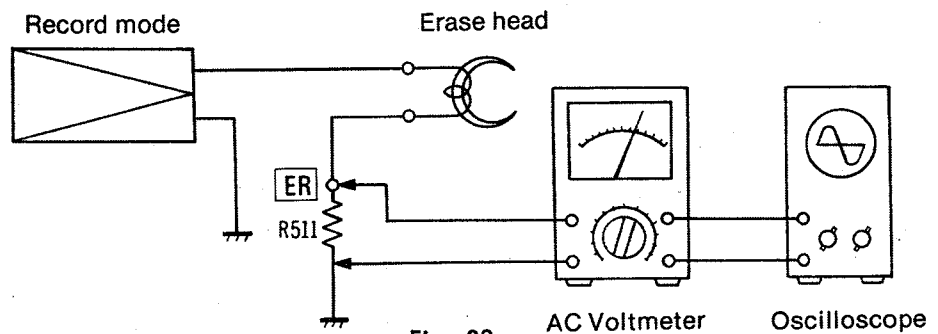
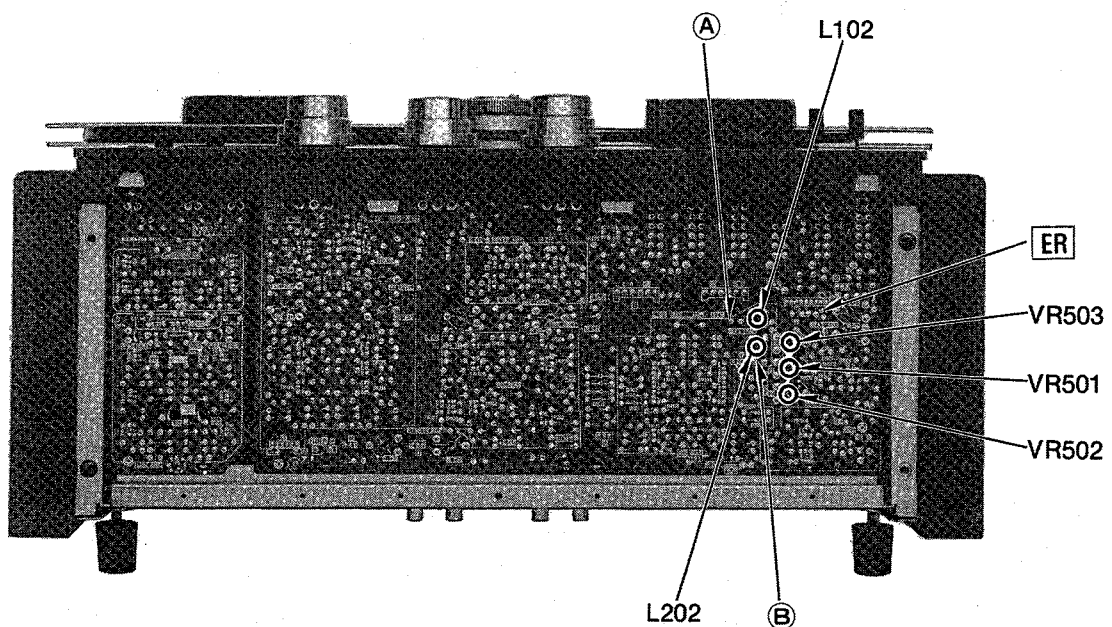

Fig. 38
Fig. 39
Erase current	<p>1. Test equipment connections are shown in fig. 38.</p> <p>2. Set the Line-in level control to minimum position.</p> <p>3. Set the bias selector to "1" position.</p> <p>4. Set the tape speed selector to "38" position.</p> <p>5. Set the recording mode selector to "ON" (L-CH) and "OFF" (R-CH).</p> <p>6. Place unit into recording mode.</p> <p>7. Measure voltage at point (A) and then calculate erase current by formula below.</p> $\text{Erase current} = \frac{\text{Value read on VTVM (V)}}{1 (\Omega)}$ <div style="border: 1px solid black; padding: 5px; margin: 10px auto; width: fit-content;"> <p>Standard value: Bias selector "1" position: around 65 mA</p> </div> <p>8. Then set the recording mode selectors to "OFF" (L-CH) and (R-CH), and confirm that the above standard value can be obtained.</p> <p>[Adjustment] If the measured value is not satisfied, adjust the erase current adjustment VR, VR501. (See fig. 39.)</p> <p>9. Next, set the bias selector to the "2" position, and confirm that the standard value shown below can be obtained.</p> <div style="border: 1px solid black; padding: 5px; margin: 10px auto; width: fit-content;"> <p>Standard value: Bias selector "2" position: around 71 mA</p> </div> <p>[Adjustment] If the measured value is not satisfied, adjust the erase current adjustment VR, VR502. (See fig. 39.)</p>
(See fig. 39.)
Bias current leakage-1	<p>To prevent bias current leakage to REC-AMP.</p> <p>(L-channel)</p> <p style="text-align: center;">Fig. 40</p> <ol style="list-style-type: none"> <li>1. Test equipment connections are shown in fig. 40.</li> <li>2. Thread "open" blank test tape (QZZORA218EX).</li> <li>3. Place unit into recording and playback modes.</li> <li>4. Set the recording mode selectors to "ON" (L-CH) and "OFF" (R-CH).</li> <li>5. Measure and adjust bias trap coil L102 (L-CH) to obtain minimum voltage (less than 3V) at point (A).</li> <li>6. Change the recording mode selectors to "OFF" (L-CH) and "ON" (R-CH).</li> <li>7. Measure and adjust the bias trap coil L202 (R-CH) to obtain minimum voltage (less than 3V) at point (B).</li> </ol> <p>Adjustment parts and test points (A) and (B) are shown in figure 39.</p>